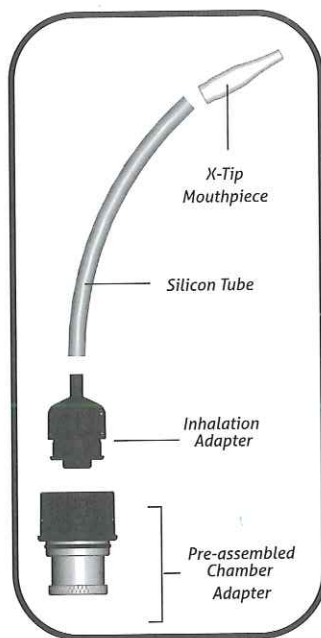

Figure-10
- Insert the Inhalation Adapter into the pre-assembled Chamber Adapter and secure by gently twisting clock-wise (Figure-10).